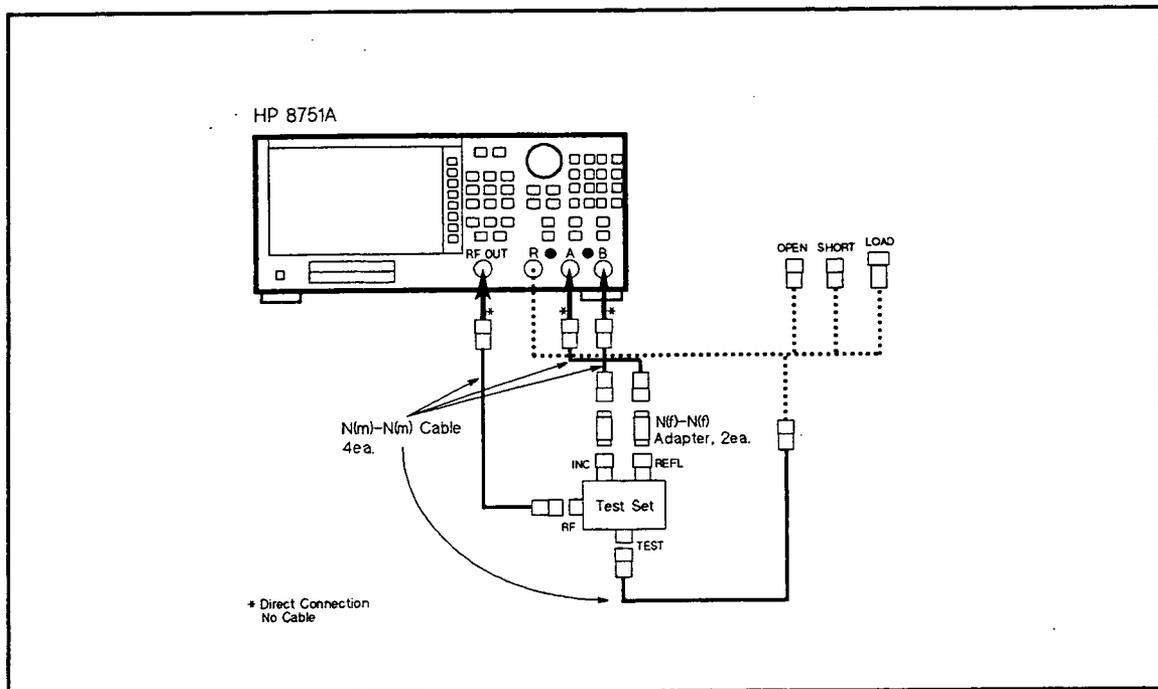

Figure 2-17. Input R Impedance Setup
- a. Connect the equipment as shown in Figure 2-17.